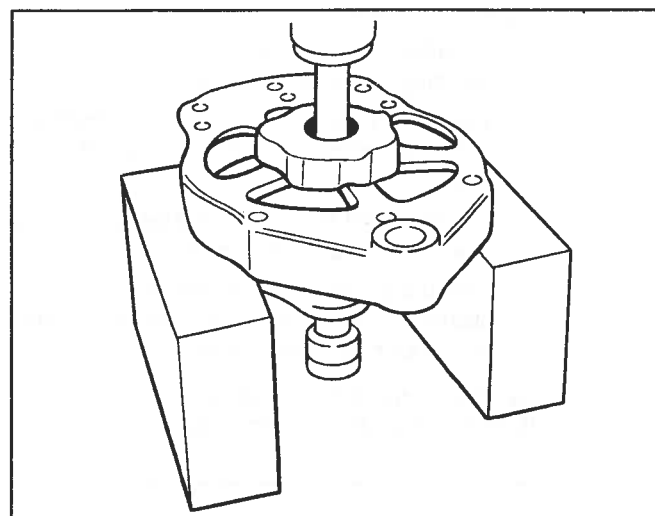

Figure 6-73. Removing Rotor From Housing
7. Carefully push the rotor assembly out of the front housing (Figure 6-73).